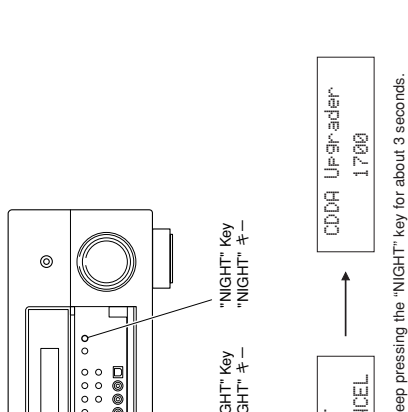

Fig. 2
5. Keep pressing the "NIGHT" key for about 3 seconds. (Fig. 2)
6. "CDDA Upgrader 1700" is displayed. (Fig. 2)